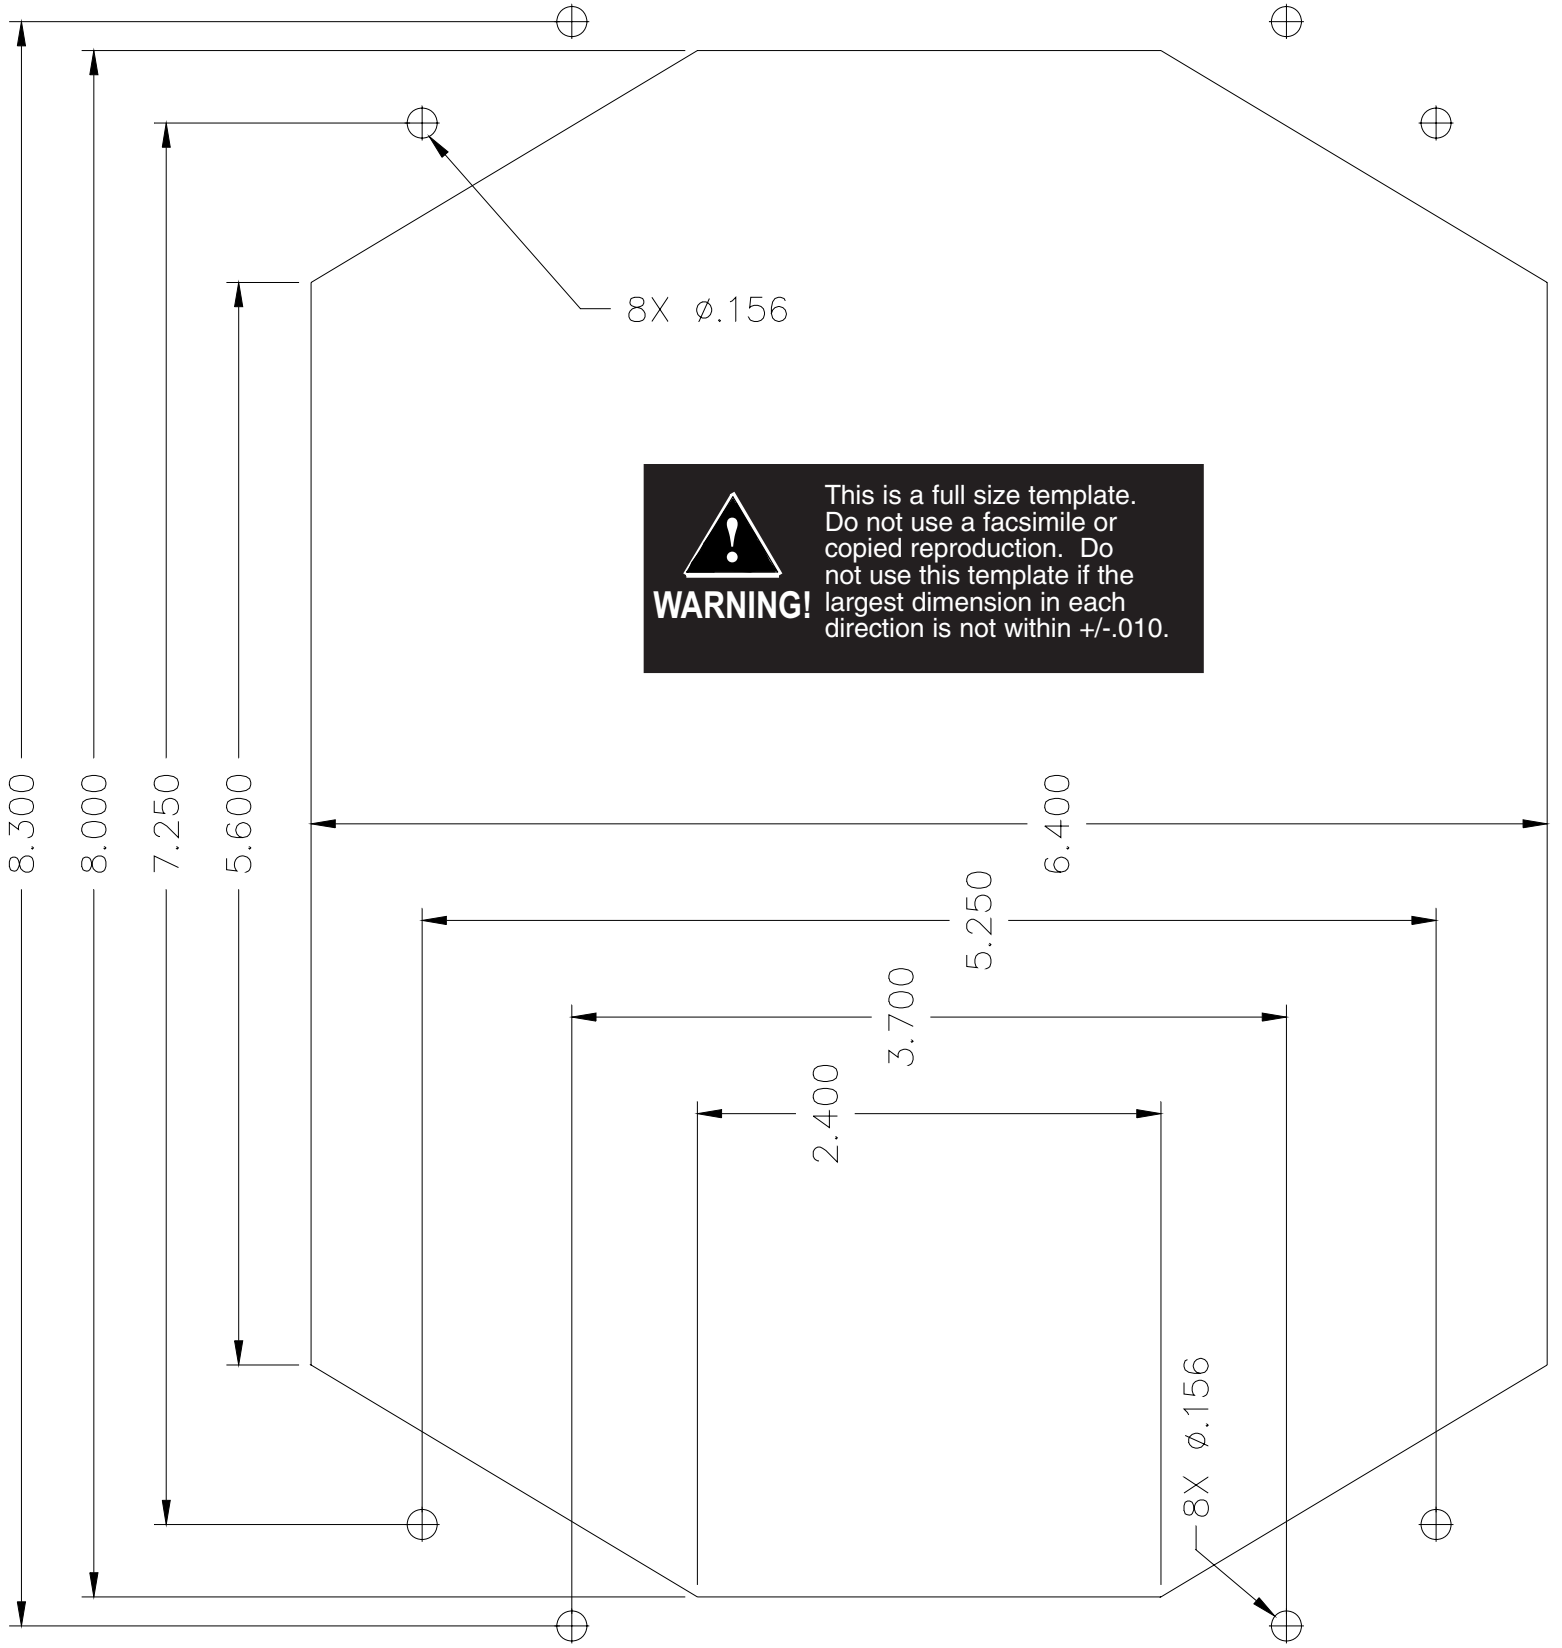

FIGURE 1
3. Cut the opening and drill the holes, use Figure 1 template or the trim bezel if your light head is so equipped.